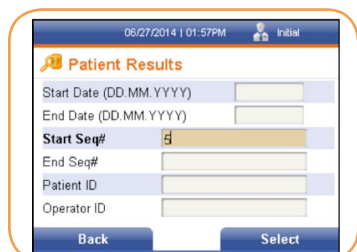

FIGURE 56
3. Using the [↓] key, cursor to the Start Seq# text field. Enter the desired Start Seq# in the text field using the numeric keypad (Figure 56).